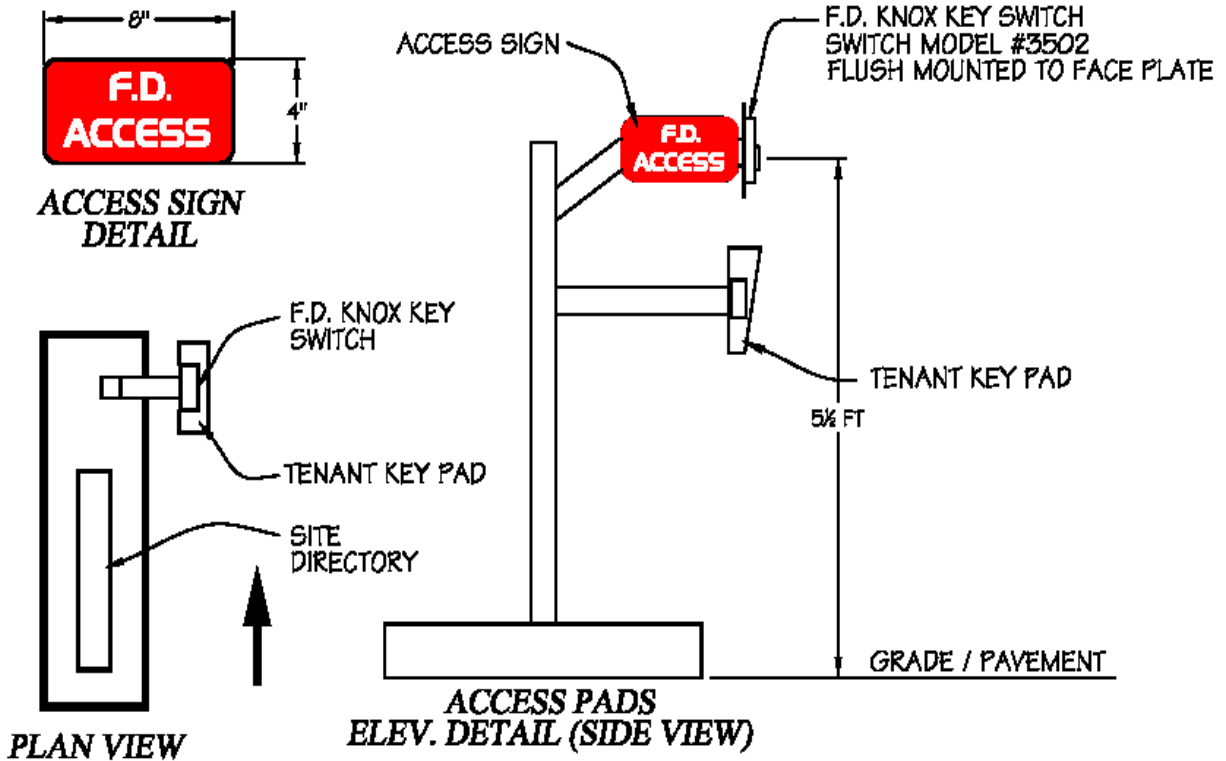

Figure 3 - Exit Only Sign Diagram with FD Access
- “Exit Only Sign” (*See Figure 3*, must meet Prosper sign requirements)